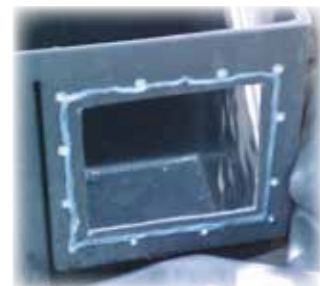

Figure 4
- 1 Apply a large bead of silicone around the opening on the face of the skimmer (figure 4).